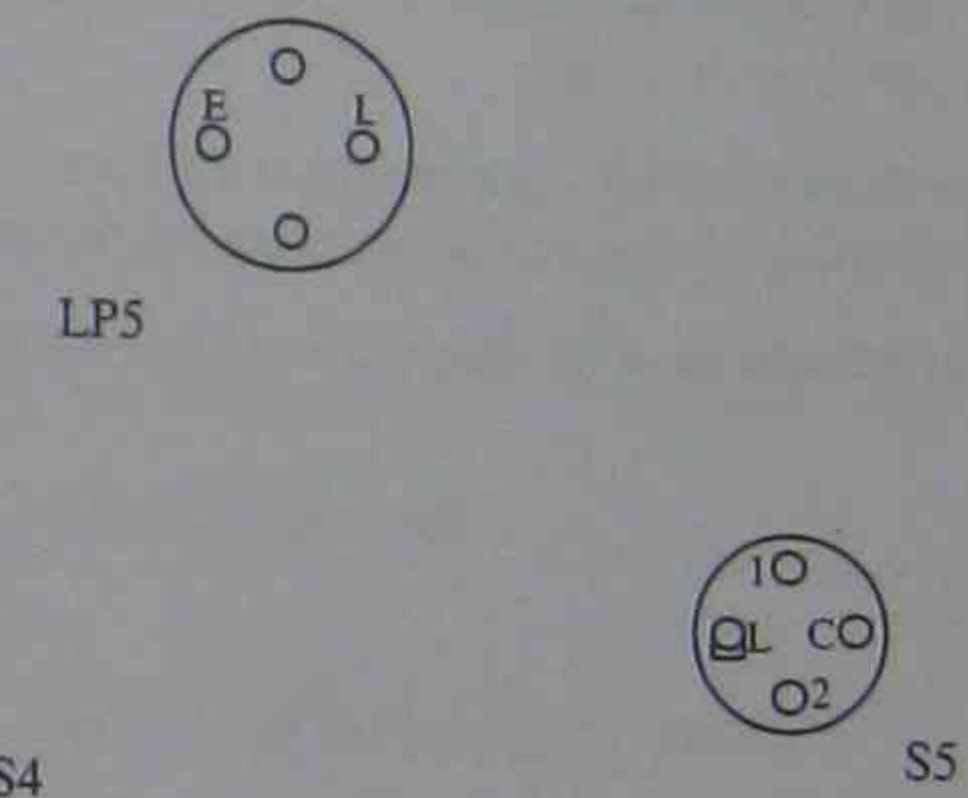

Figure 17 Wiring diagram for lighting point 5 and switches 4 and 5
6. Complete the wiring diagram of Figure 17 by drawing the connections required at lighting point 5 and switches 4 and 5. Also show the incoming and outgoing conductors.